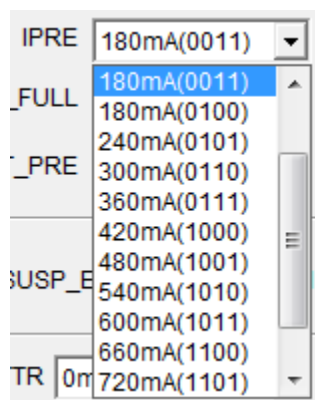

Figure 9: Pre-Charge Current Configuration
7. Set the pre-charge current (see Figure 9).